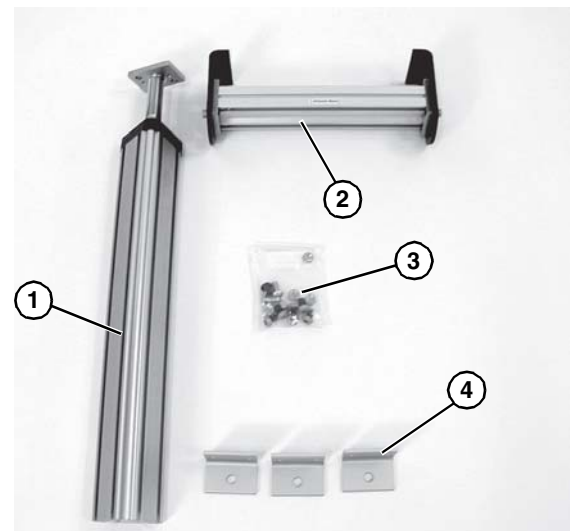

Figure 10
- Typical components (**Figure 10**).
- Open the hardware pack, single post stand (**Figure 10, item 3**).